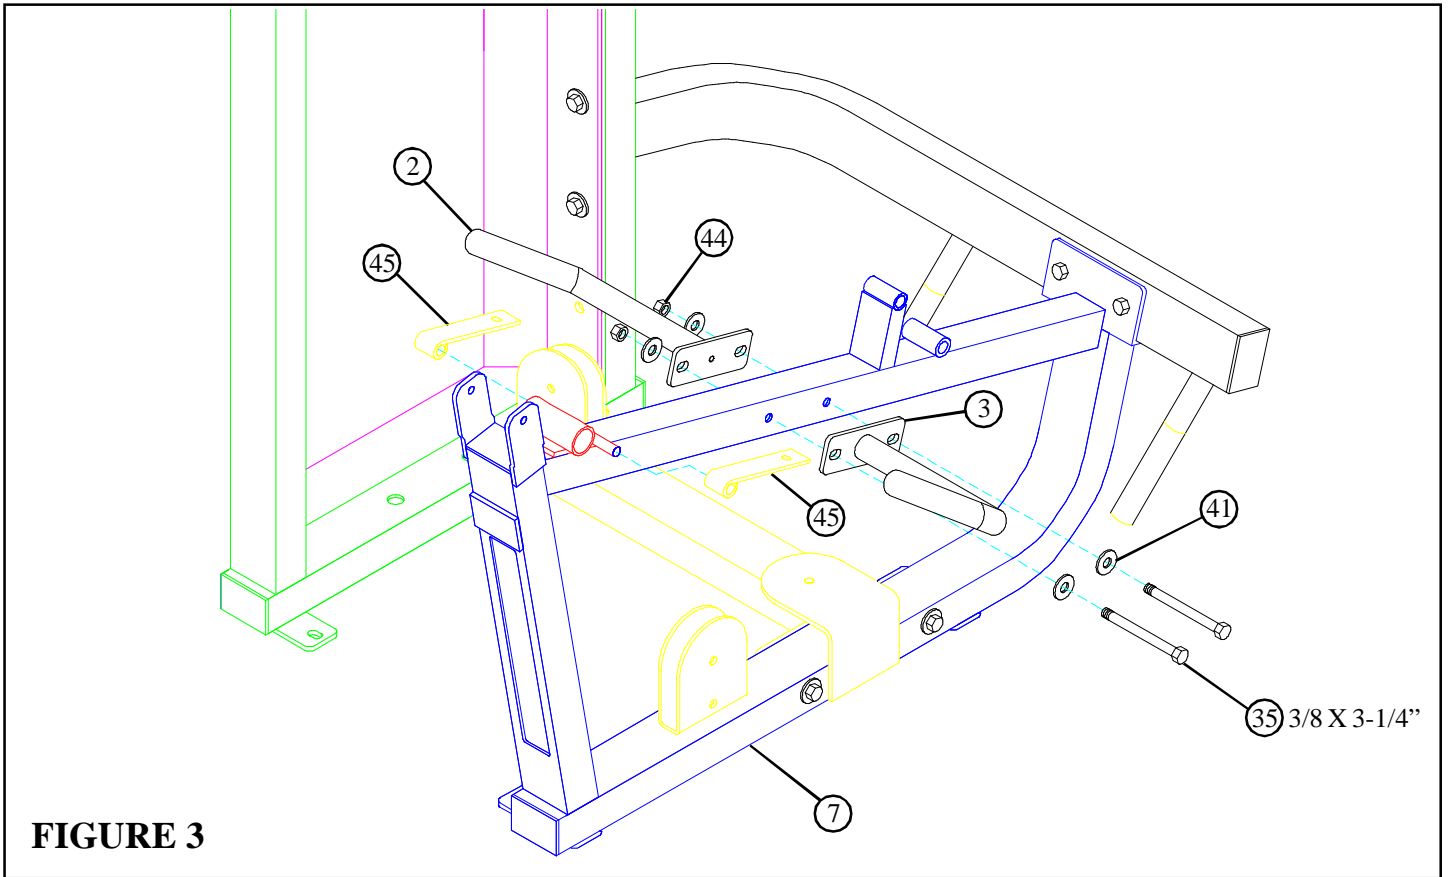

FIGURE 3
- **SECURELY** assemble the LEFT (2) and RIGHT (3) LEG EXT. HANDLES to the BENCH FRAME (7) using two 3/8 X 3-1/4" BOLTS (35), four 3/8" WASHERS (41), and two 3/8" LOCK NUTS (44). See FIGURE 3.
- Slide two HINGE TABS (45) onto the BENCH FRAME (7) as shown in FIGURE 3.